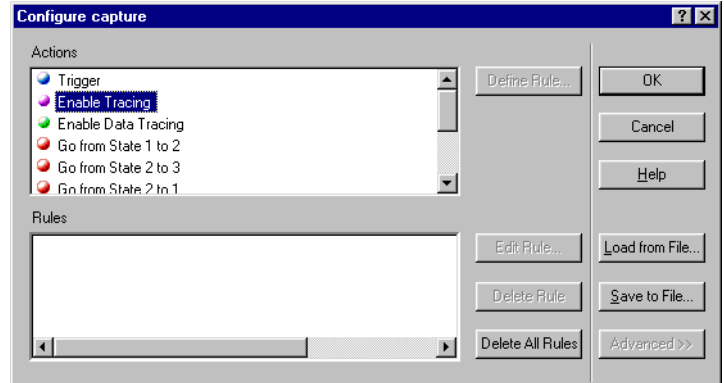

Figure 8-27 Configure capture dialog box
1. Set the tracing conditions by selecting **Configure Capture** from the **Trace** menu. The **Configure capture** dialog box is shown in Figure 8-27.